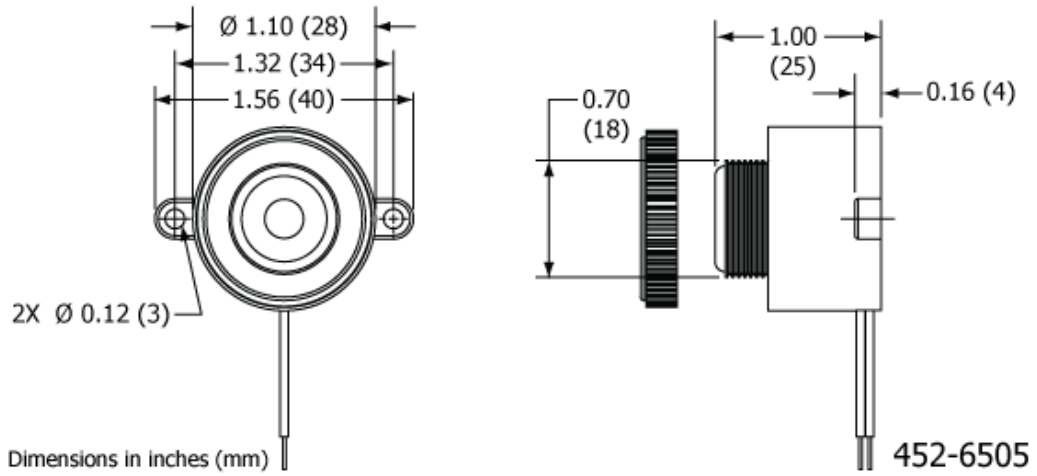

Figure 19 Buzzer Outline and Dimensions
- Fabricate a support bracket for the buzzer. See Figure 19 Buzzer Outline and Dimensions.